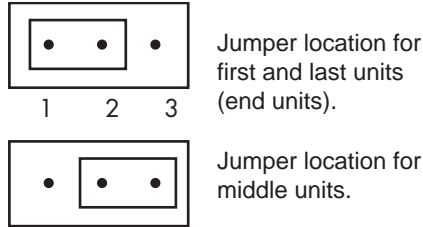
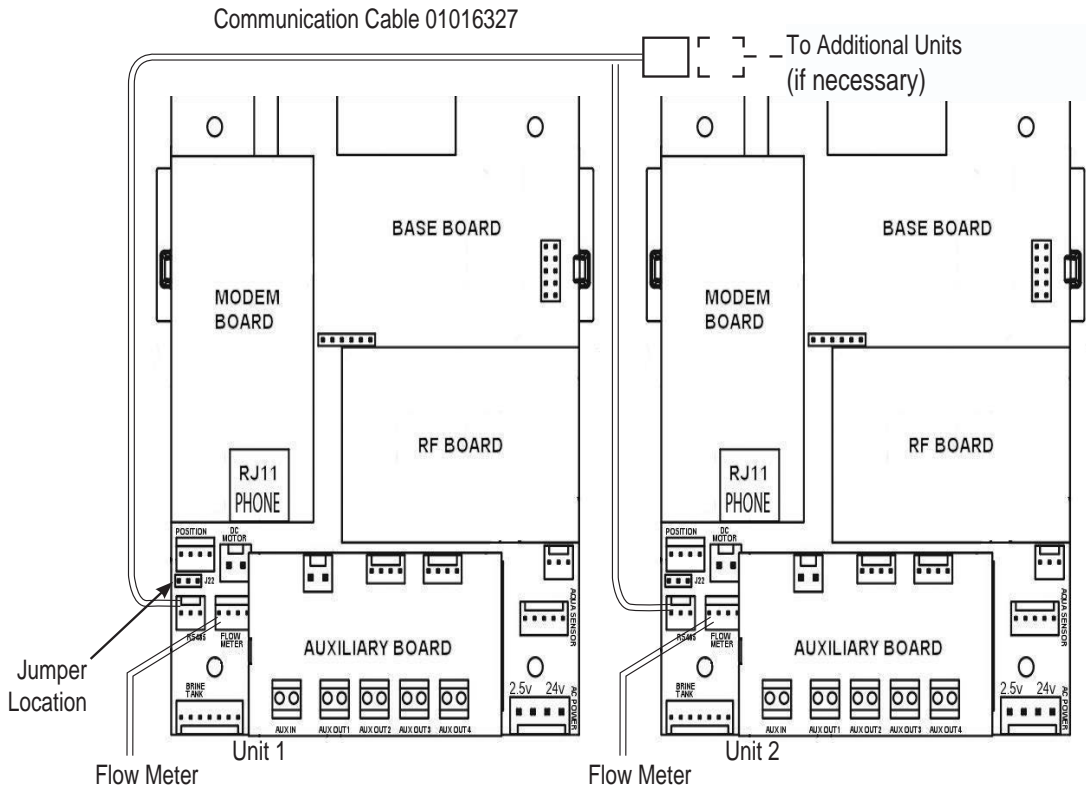
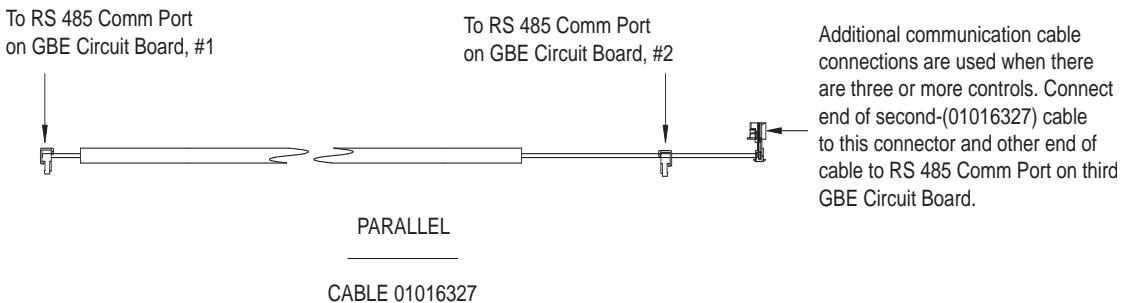

Figure 21.
Figure 22. Duplex connections.
Figure 23. Parallel cable for Smart Controller.
6. Connect the communication cable to both circuit boards. See Figure 22.
For progressive flow to operate properly, the first and last units must have the jumpers set to pins 1 and 2 on terminal J22 (see Figure 21). All middle units should have the jumpers on pins 2 and 3. Figure 22 and Figure 23 show duplex connections. Repeat the connections on any additional systems.